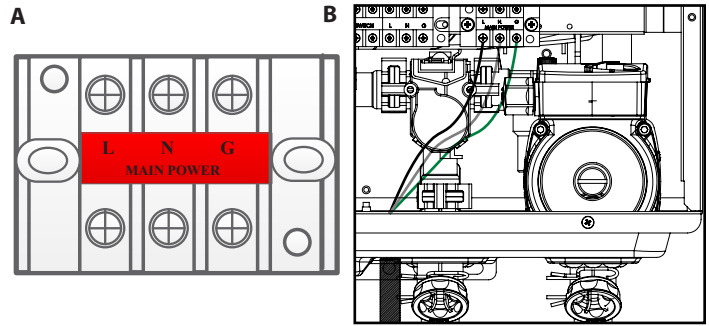

Figure 30 - A - Line Voltage Wiring Terminal Block, and B - Terminal Block Wired through Knockout
3. Connect the incoming power wiring to the line voltage terminal strip in the electrical junction box at terminals L (Line Voltage), N (Neutral), and G (Ground) (shown in Figure 30).